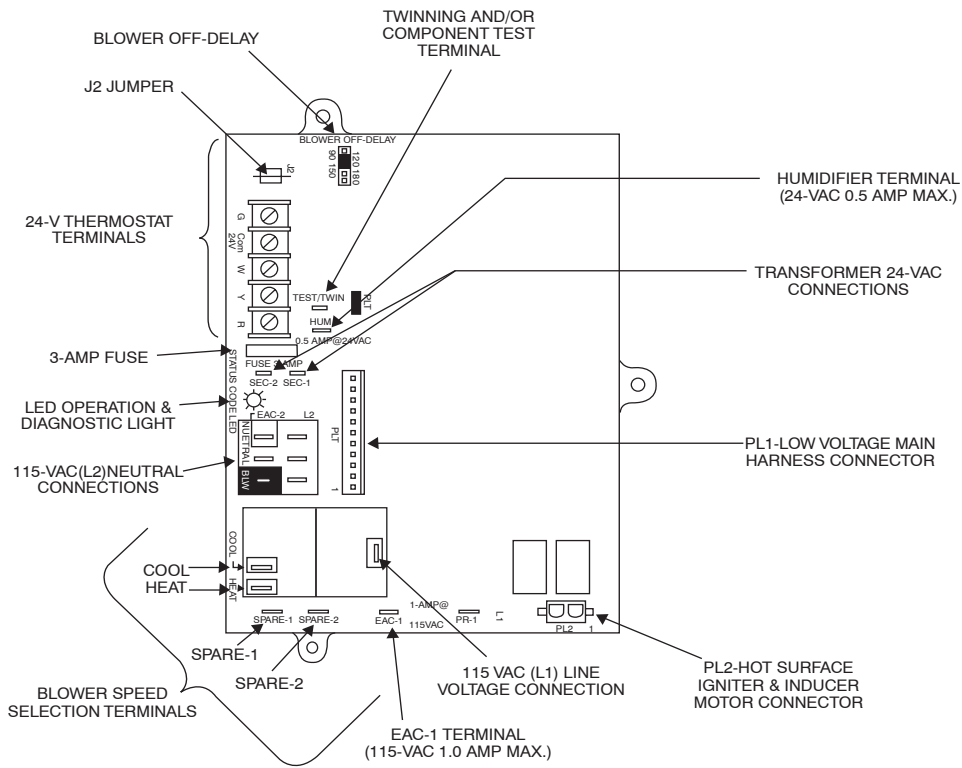

Fig. 43 - Standard Single Stage Control
5. Jumper across thermostat connections R to W (See Fig. 43 or 44). When main burners ignite, confirm inlet gas pressure is between 11.5 in. wc and 13.6 inc. wc.
1. Jumper R and W thermostat connections to call for heat. (See Fig. 43 or 44.)